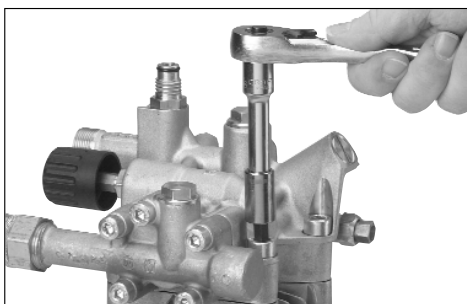

figure 12
1. Remove 4 pump head bolts using 6mm allen wrench. (figure 12)
- Remove four pump head bolts with an allen wrench and remove the pump head. (See Section 2, figure 12)